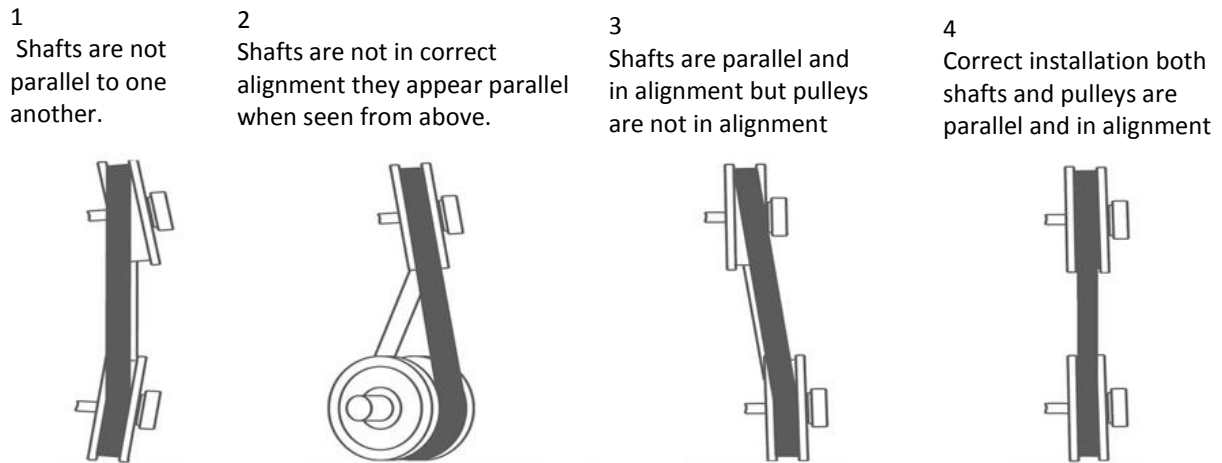

Figure 23
- Figure 23 illustrates the pulleys alignment.